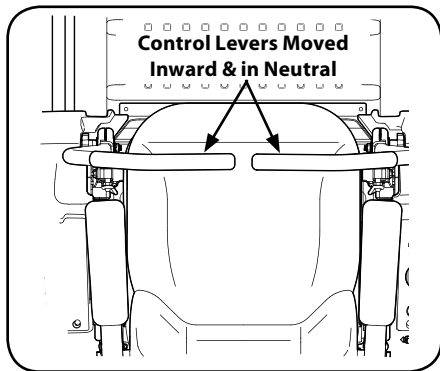

Figure 3-1
3. Move the RH and LH drive control levers inward in the neutral position. Refer to Figure 3-1.